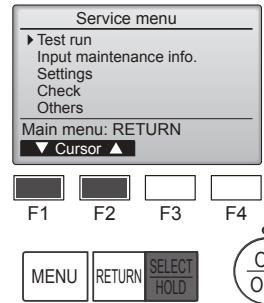

Fig. 8-1
- Select "Test run" from the Service menu, and press the [SELECT/HOLD] button. (Fig. 8-1)